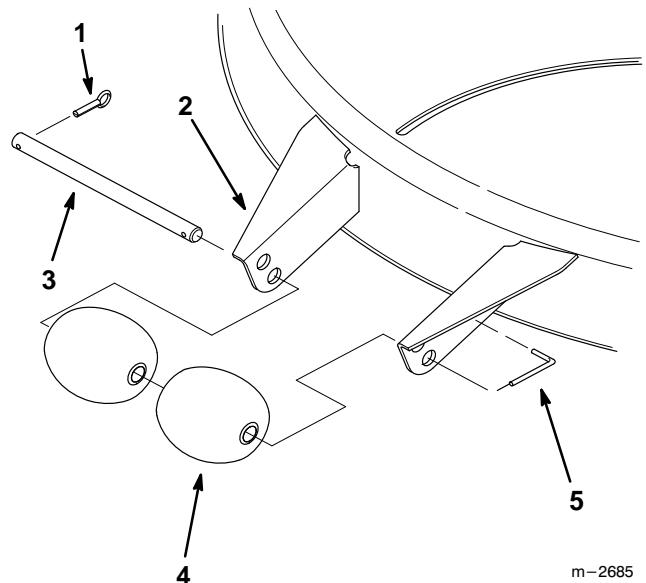

Figure 11
1. Remove the cotter pin from the roller shaft (Fig. 11).
2. Slide the roller shaft out of the bracket holes (Fig. 11).
3. Align the two front rollers with the top holes in the brackets, then reinstall the roller shaft (Fig. 11).
4. Reinstall the cotter pin into the roller shaft. Make sure the special L-shaped pin is installed through the roller shaft, and into the hole in the bracket (Fig. 11).